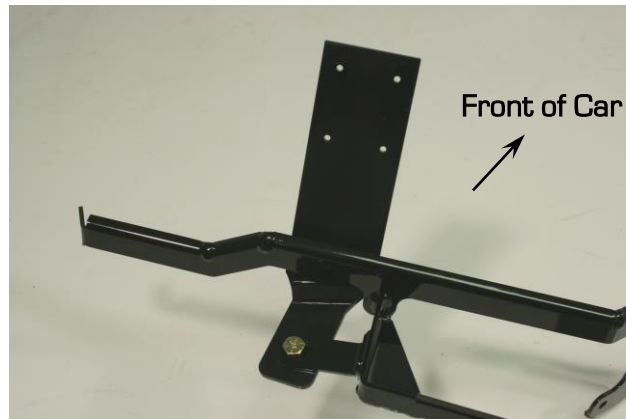

Figure 4 – Plenum Bracket Attached to Gen IV Magnum Mounting Bracket
NOTE: If you have a factory A/C 1969 Camaro, you will also need a plenum bracket which is available as Detroit Speed P/N: 011004DS to complete the installation shown in Figure 4.
- b. On a factory a/c 1969 Camaro, DSE offers a Plenum Bracket (P/N: 011004DS) that is sold separately that attaches to the Gen IV Magnum Mounting Bracket allowing installation in the car. The Plenum Bracket attaches to the mounting bracket as shown in Figure 4 below. With the plenum bracket attached, locate it against the upper plenum sheet metal and attach it with either pop rivets or sheet metal screws.